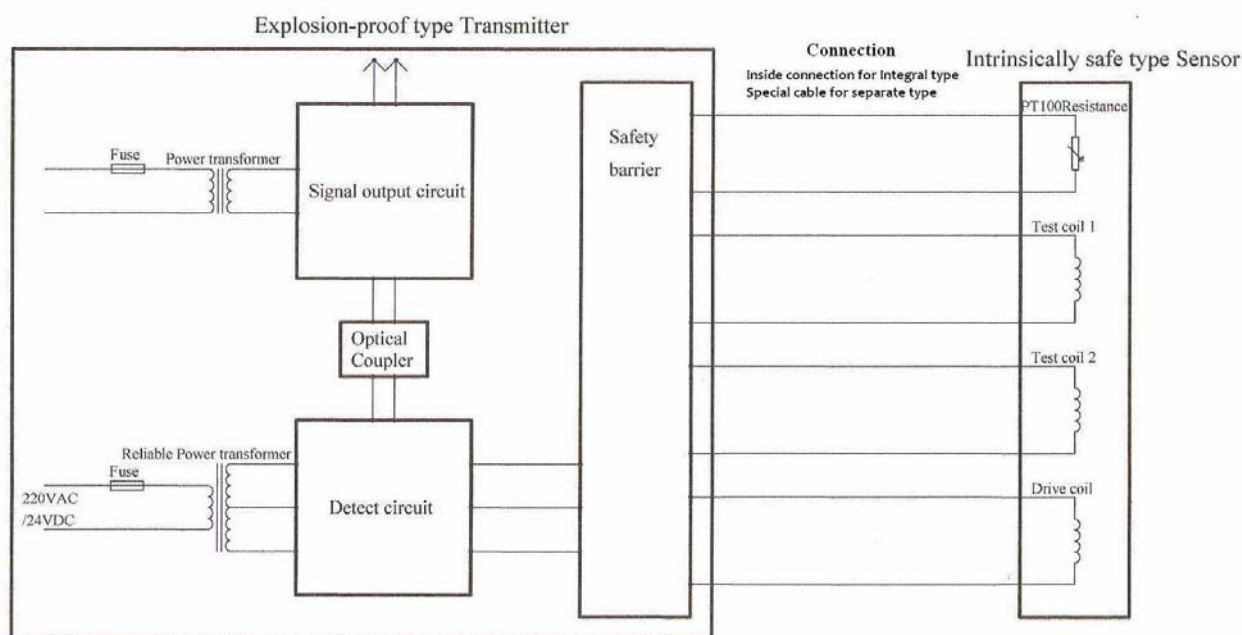

Figure 1.3 – Block diagram of the flowmeter
- Block diagram of the flowmeter is shown in Figure 1.3.